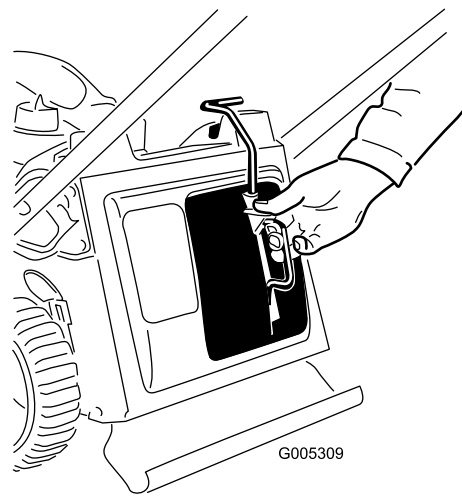

Figure 32
3. Insert the mulch plug (Figure 32).